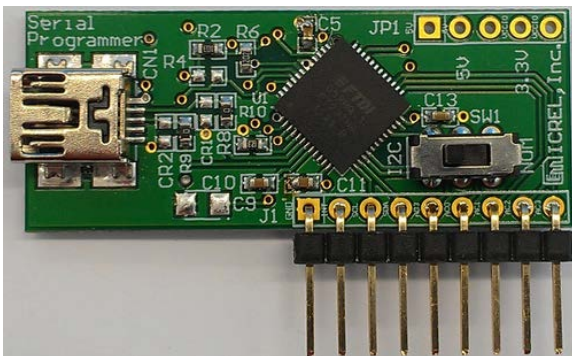

Figure 4. Top Side of the Adapter with the Mini Slide Switch Toggled to I²C Position
5. Set the mini slide switch SW1 on the MICUSB Dongle EV. The SW1 should be toggled to the I²C position as shown in Figure 4.